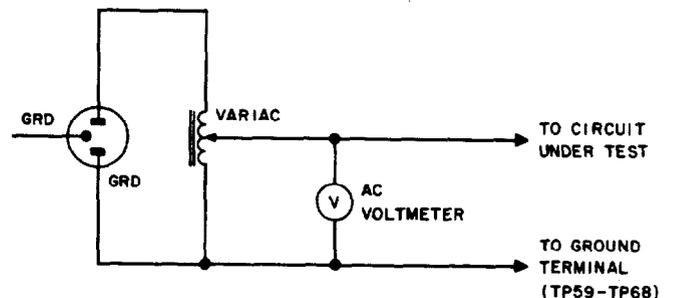

Fig. 1—Servo Test Arrangement
2.01 Assemble the test fixture shown in Fig. 1.
3	Connect the test arrangement shown in Fig. 1 to the connector at the rear of bay 4 of the transmitter. Connect the ground lead to one of the ground terminals (TP59 to TP68) in the block on the fuse panel.
3	<p>With the output leads of the variac shown in Fig. 1 free and clear, connect the plug of the test arrangement to the ac power source and adjust the output voltage to 0 volt.</p>